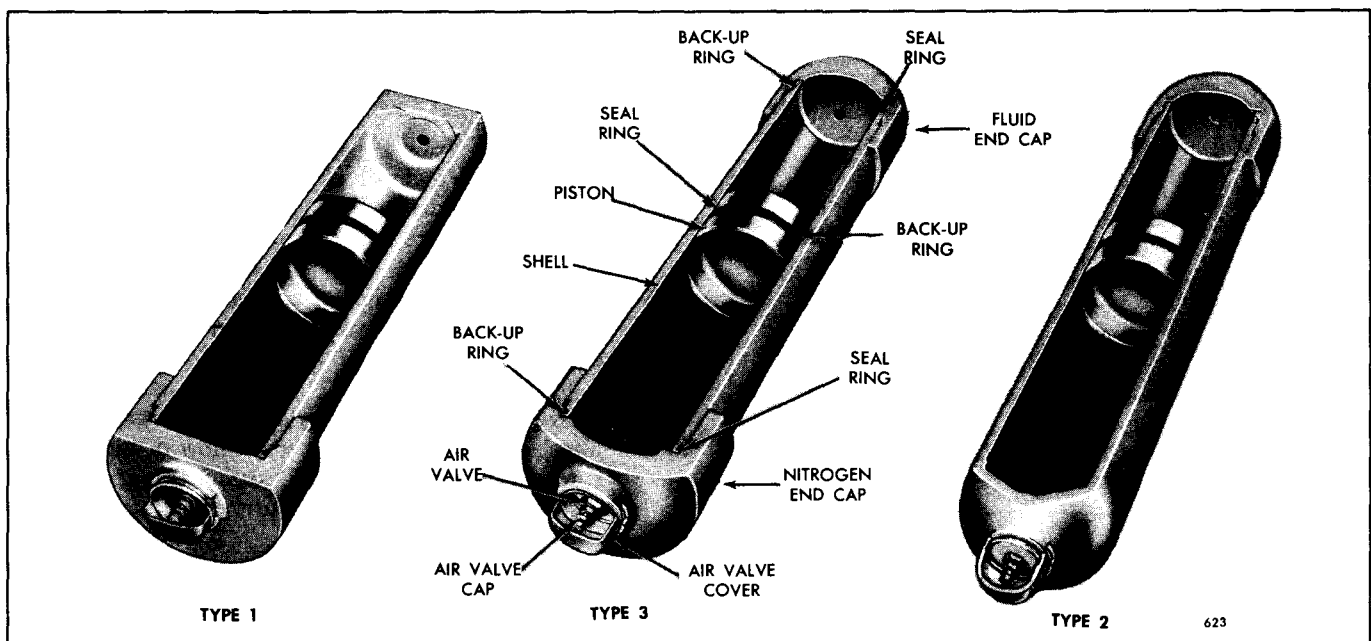
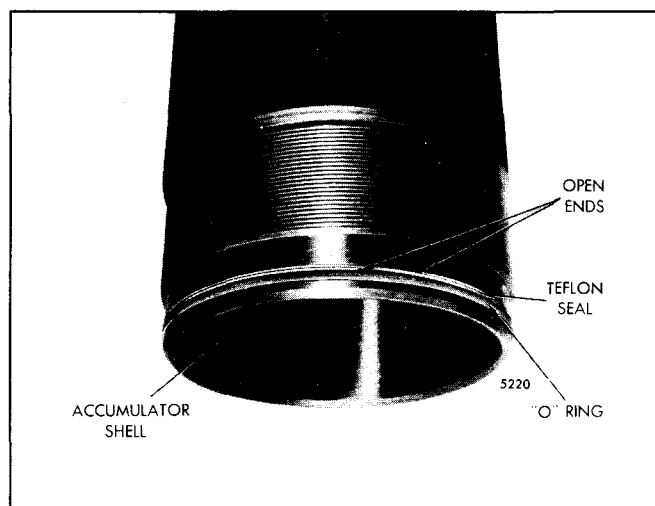

Fig. 20 – Cross Section of Typical Accumulators
Fig. 21 - Proper Installation of Teflon Back-up Ring
Three different types of accumulators (Fig. 20) have been used with the Hydrostarter system. The accumulator consists of a heavy duty shell assembly and piston designed to hold the nitrogen pressure for an extended period of time.
1. If a defective air valve was the cause of leakage, remove the air valve cover (Fig. 20) from the accumulator cap and the air valve cap from the air valve. Loosen the 5/8" hex swivel nut on the air valve stem approximately 1-1/2 turns and then depress the valve core to release any remaining nitrogen pressure before removing the air valve. Remove the valve and replace it with a new part.
1. Install new teflon back-up rings (Fig. 20) and new seal rings ("O" rings) in the grooves of the shell, with the seal ring nearest the open end of the shell (Fig. 21).
2. Remove the air valve cover (Fig. 20) from the accumulator cap and the cap from the air valve.